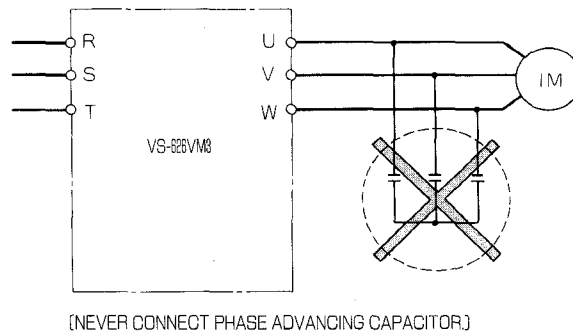

Fig. 4.16 Removal of Phase Advancing Capacitor
- (4) Phase rotation of input terminals (R, S, T) is available to each direction, clockwise and counter clockwise.
- (5) Never connect power supply to output terminals (U, V, W).
- (6) Connect inverter output terminals (U, V, and W) to corresponding motor terminals (U, V, and W).
- (7) It is not guaranteed that failures are caused by grounding or short-circuiting of output cables. Be careful not to let cables come in contact with the casing.
- (8) Never connect phase advancing capacitors between the inverter and the motor. (Fig. 4.16.)